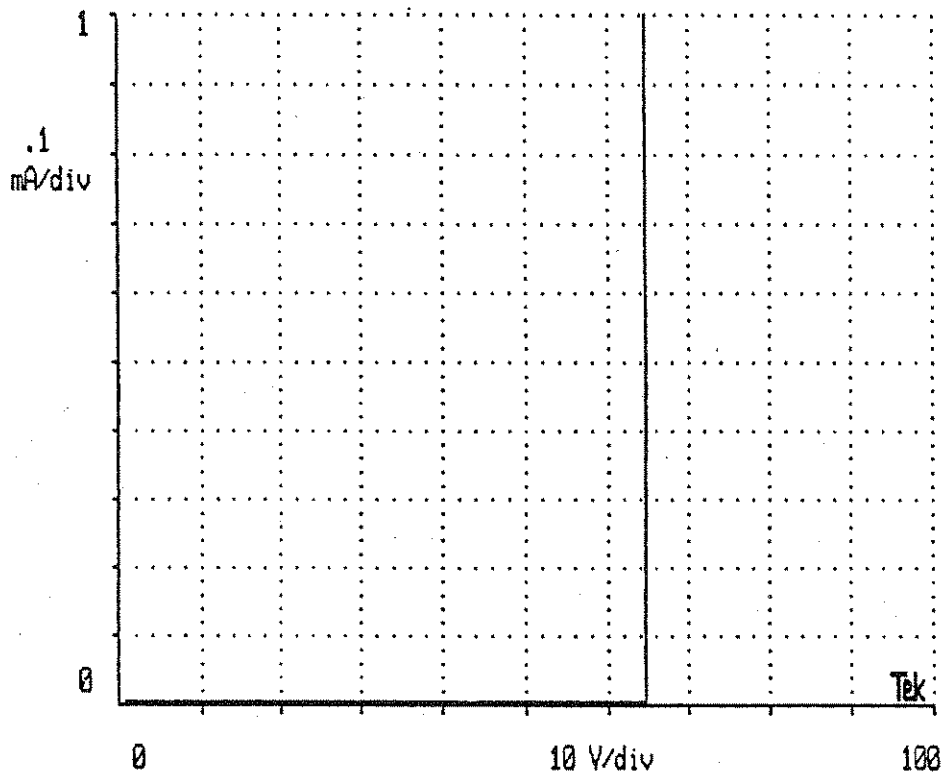

Figure 3-9: Vce0 Curve Curve
- Step 4 Press START and observe a curve as in Figure 3-9.